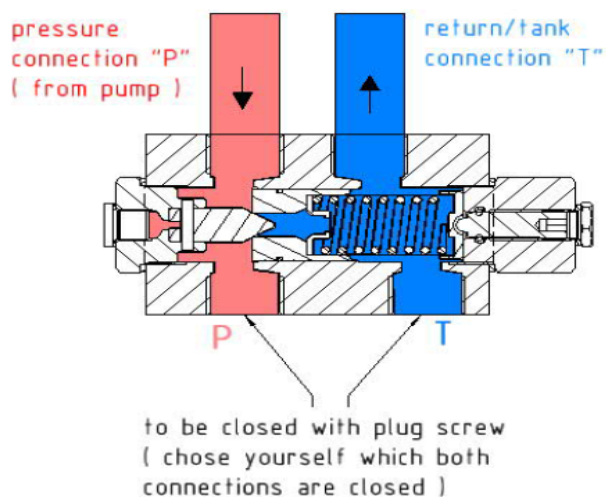

Fig.2 One pipe system
- The overflow valve can be connected at one pipe system to work as a max. Press. regulator (Fig.2)